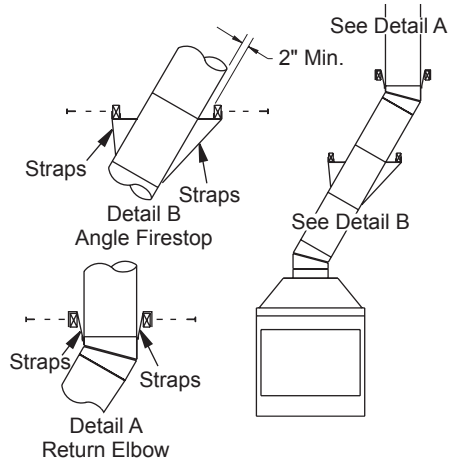

Figure 8 - Ceiling Support Pipe 12S-12DM
2. Chimney weight above offset rests on return elbow. Straps must be securely nailed to rafters or joists (see Figure 8, details a & b).